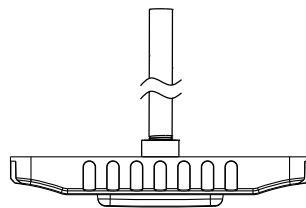

Figure 5
2. Screw the fixture to the 3/4" NPT Stem. (Figure 5)